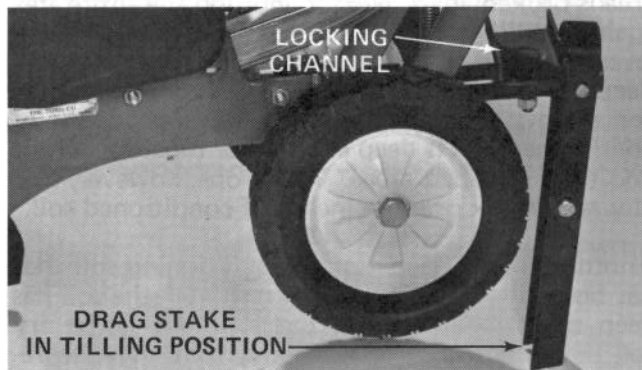

Figure 14
Drag Stake (Fig. 14 and 15) — When the drag stake engages the soil, it forces the tines into the soil and eases operator effort in controlling forward advance and overall control of the tiller. When tiller is pulled backward, drag stake will pivot forward so movement is not adversely affected.
1. Rotate locking channel so that the drag stake is free to rotate down to tilling position (Fig. 14).